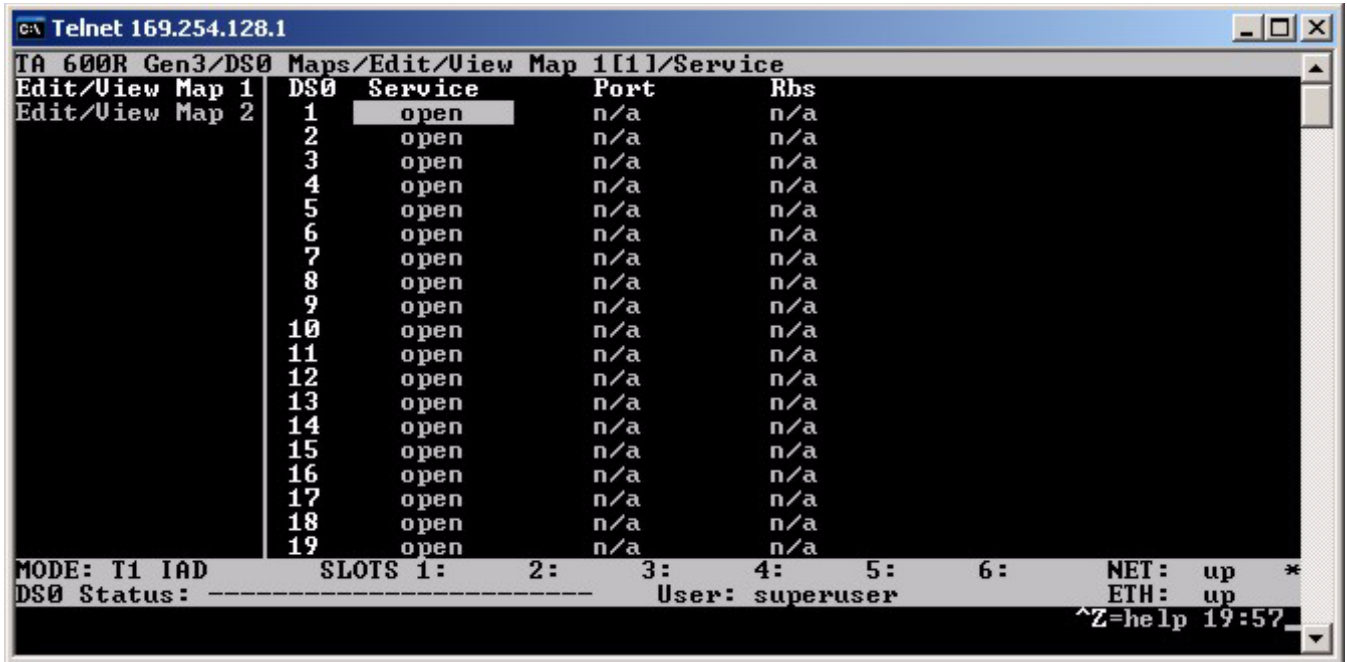

Figure 98: Selecting the DS0
5. Select **DS01** as shown in Figure 98.